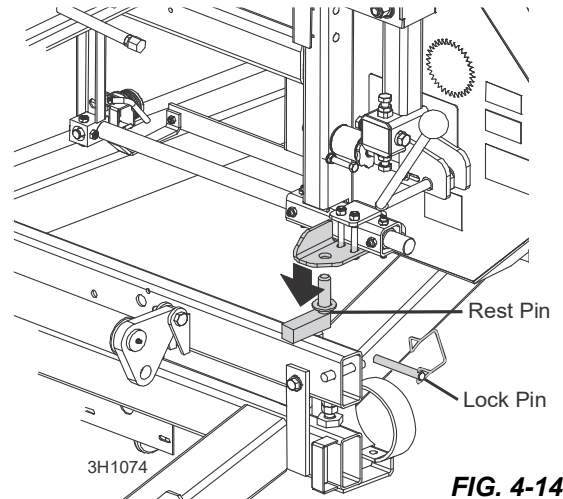

FIG. 4-14
7. Secure the rest pin in the vertical position with the locking pin. **See Fig. 4-14.**